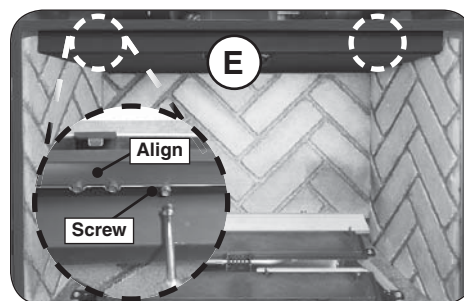

Fig. 32-2 Install lintel
8. Reinstall the lintel at the top front of the unit. See Fig. 32-2, "E".